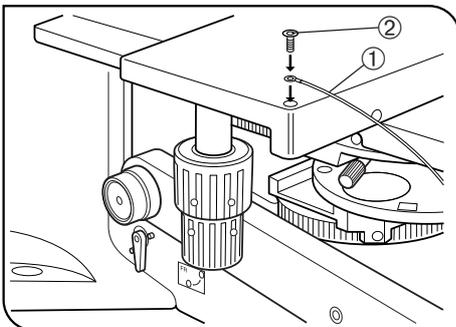

Fig. 10
3 Setting the Grounding (Fig. 10)
Prepare a grounding wire ① and M4 screw ② and attach grounding as shown in Fig. 10.